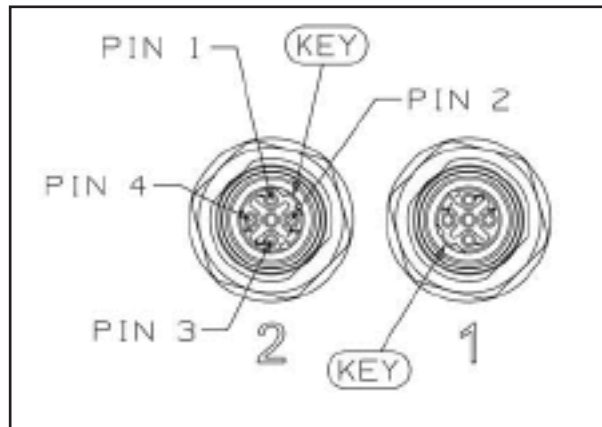
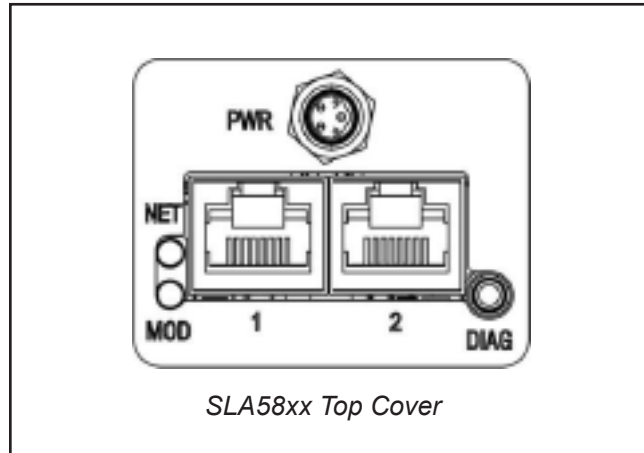

Figure 4-1 Pin Labeling of M12 Female Connectors (2 per device)
Figure 4-4: EtherNet/IP Top Cover
- In and Out M12 threaded female connectors labeled “1” and “2” for Ethernet/IPTM Communications (Figure 4-1).
The available physical interfaces on the EtherNet/IPTM SLA5800 device are listed below (Figure 4-4):
As noted in the Physical Interface Sections, above, each SLAMf EtherNet/IPTM device has (2) M12 4 Pole, Female “D” Coded Connectors (Figure 4-1) labeled 1 and 2. And each SLA5800 Series EtherNet/IPTM device has (2) RJ-45 Ethernet Connection ports labeled 1 and 2 (Figure 4-4).